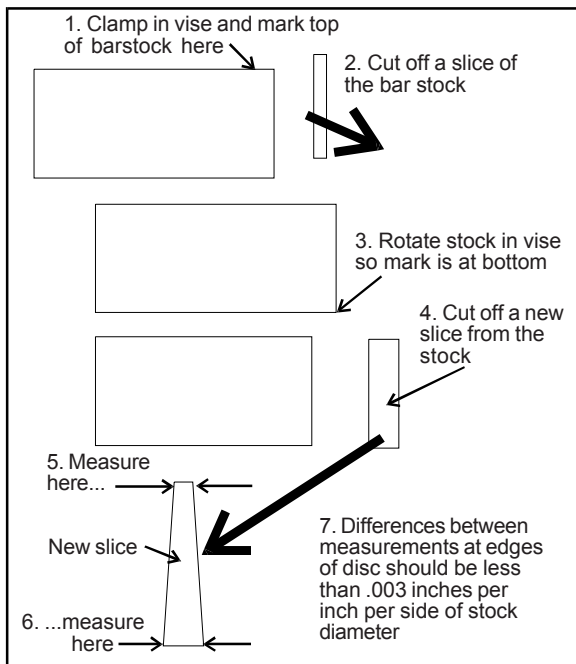

Figure 16: Cutting a test disc
1. With the bar stock securely clamped in the vise, make a cut through the bar stock. (See figure 16.)